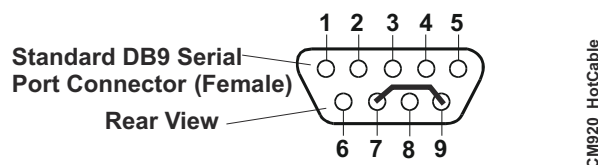

Figure 3-2. Serial Console Jumper
To convert a standard serial cable to a “Hot Cable”, short together the RTS (7) and RI (9) pins on the serial port cable DB9 connector as shown in Figure 3-2.